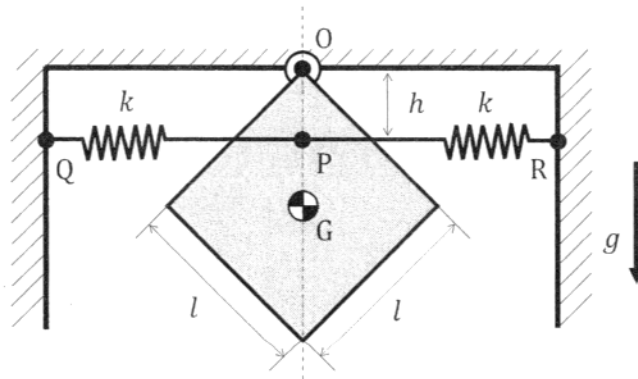

Figure 2-1
- I. Consider the system composed of a square plate and two springs, as shown in Figure 2-1. A corner of the square plate is subjected to point support at Point O and the plate rotates around Point O in the plane. The side length of the plate is l , the mass of the plate is m , and the thickness and the density of the plate are homogeneous. The moment of inertia of the plate around Point O is J . Point G is the center of gravity of the plate. The two springs are fixed on the plate at Point P, located at a distance h from Point O in the vertically downward direction. The other ends of each spring are fixed on the wall at Point Q and Point R, respectively. Both springs have a spring constant k . The gravitational acceleration is g . The system is shown at rest in the figure. Consider the case of small vibration of the plate around Point O. The rotation angle of the plate from the vertical direction is θ . Here, the rotation angle θ and the displacement of the springs are small. Assume $\cos \theta \cong 1 - \frac{1}{2}\theta^2$ and $\sin \theta \cong \theta$. The friction of the rotational motion of the plate, the air resistance, and the weight of the springs are negligible. Answer the following questions.